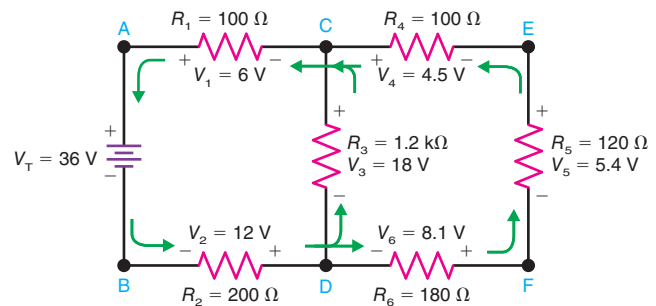

Figure 8-16
- 8.6 In Fig. 8-16,
- 8.7 In Fig. 8-16,